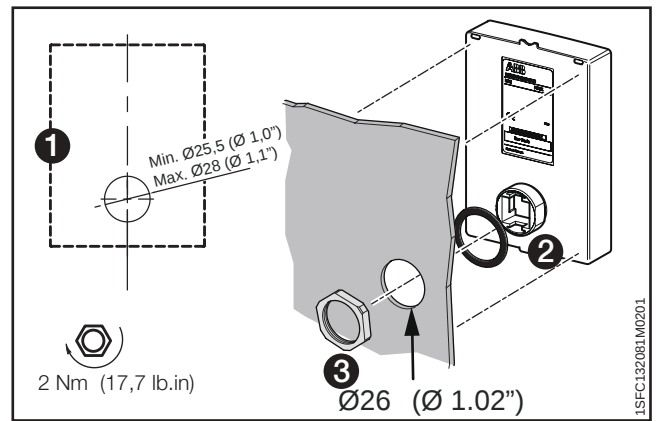

Figure 4.9
1. To remove the movable HMI from the Softstarter, loosen the plastic latch below the movable HMI, see ❶ and ❷ in **Figure 4.9**.
2. Drill a hole where to attach the movable HMI. Maximum dimension of the hole is $\varnothing 26$ ($\varnothing 1.02''$), see ❶ in **Figure 4.9**. Put the rubber packing around the threaded network connector on the movable HMI, see ❷ in **Figure 4.9**. Push the threaded network connector through the drilled hole. See ❸ in **Figure 4.9**. Fasten the plastic screw-nut on the threaded network connector, with 2 Nm (17.7 lb/in).